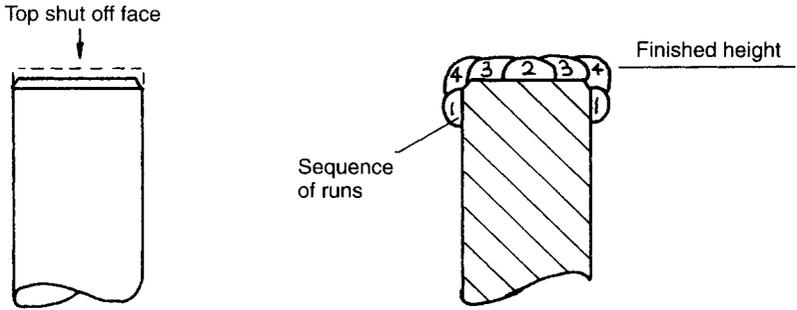

Fig. 6.1
**Solution 1a** The top face must be removed by grinding because it is pitted and contaminated. Then the face will be rebuilt by welding. See Fig. 6.1.